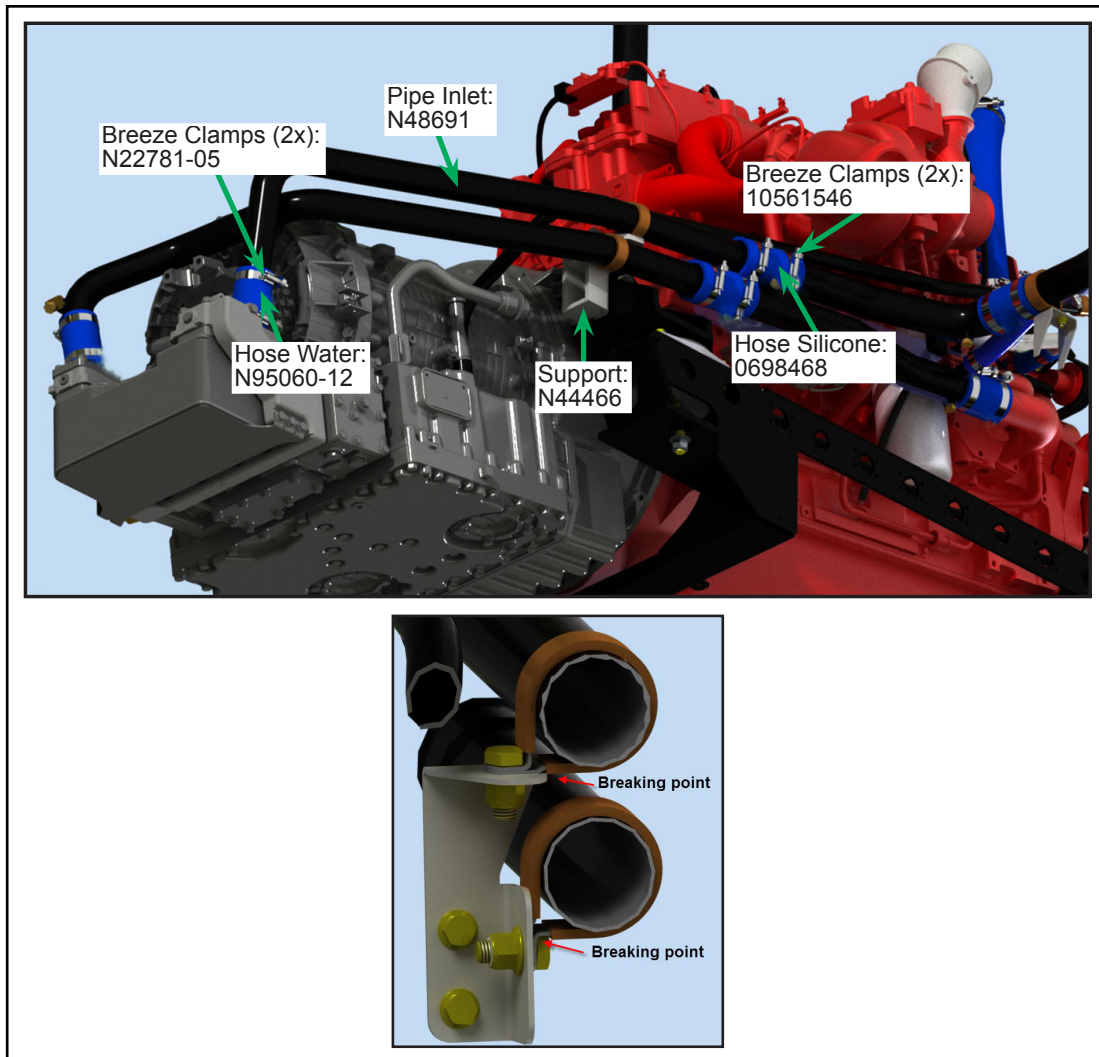

Figure 7 - Typical View of Transmission Cooling Pipes and its Accessories
- 1.12. Remove and discard the existing clamps, hoses, pipe inlet and support (see Figure 7).